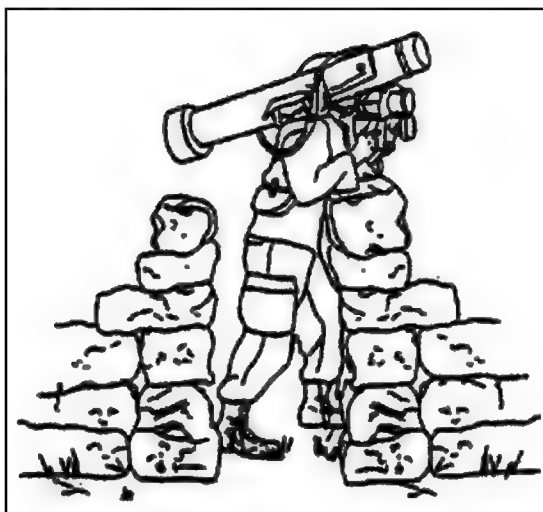

Figure 2-25. Standing supported firing position.
(1) Stand on the left side of the Javelin facing the direction of fire. Take up a kneeling position with the right knee on the ground.
(2) Check the backblast area.
(3) Grasp the left handgrip of the CLU with the left hand. Place the right hand under the round nearest the shoulder pad.
(4) Lift the Javelin in a single, smooth motion and position the shoulder pad on the right shoulder.
(5) From this one knee position, stand up keeping the back straight and the weight balanced. The gunner keeps his balance by standing with the legs spread a comfortable distance apart (Figure 2-25).